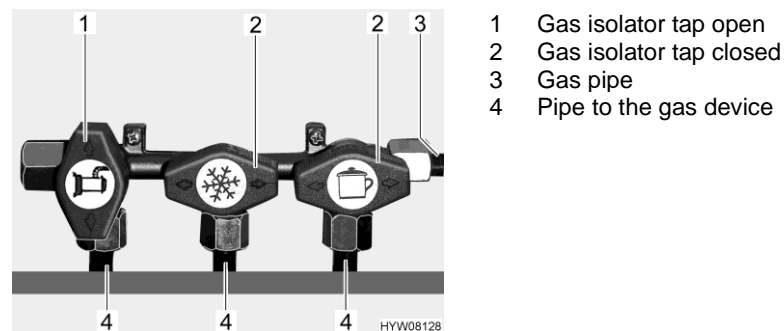

Fig. 87 Gas isolator taps position (example)
- Opening:** ■ Position the gas isolator tap of the corresponding gas device parallel (Fig. 87,1) to the pipe (Fig. 87,4) leading to the gas device.
- Closing:** ■ Position the gas isolator tap of the corresponding gas device transverse (Fig. 87,2) to the pipe (Fig. 87,4) leading to the gas device.